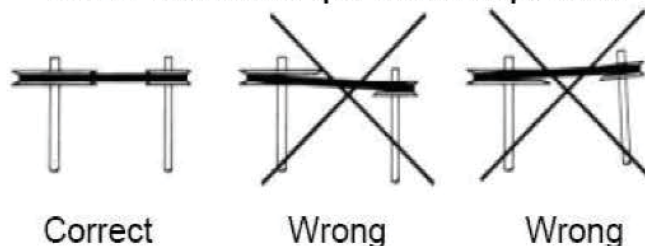

FIGURE. 5: PULLEY ALIGNMENT
6. With the adjusting bolt in the minimum position, install the V-belt(s) within the sheave grooves. Position the motor on the motor bracket to ensure proper pulley alignment (Figure 5) and tighten the motor mounting hardware to secure the motor position. (A straight edge across the face of the driven pulley should be parallel to the belt once proper alignment has been achieved). **Note: Adjustments in the variable speed pulley require pulley re-alignment.**